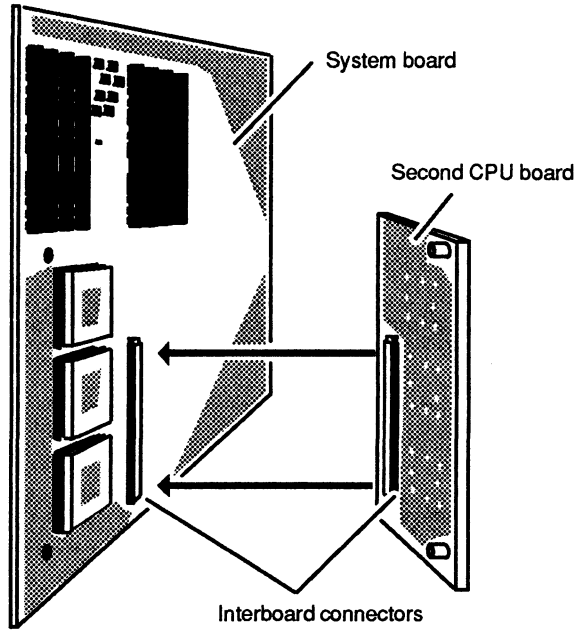

Figure 4-4 Joining the Interboard Connectors
2. Align the interboard connector on the second CPU board with the interboard connector on the system board, as shown in Figure 4-4, and press them together. If you cannot press the connectors together, make sure that the connectors are aligned correctly, and then try pressing them together again.